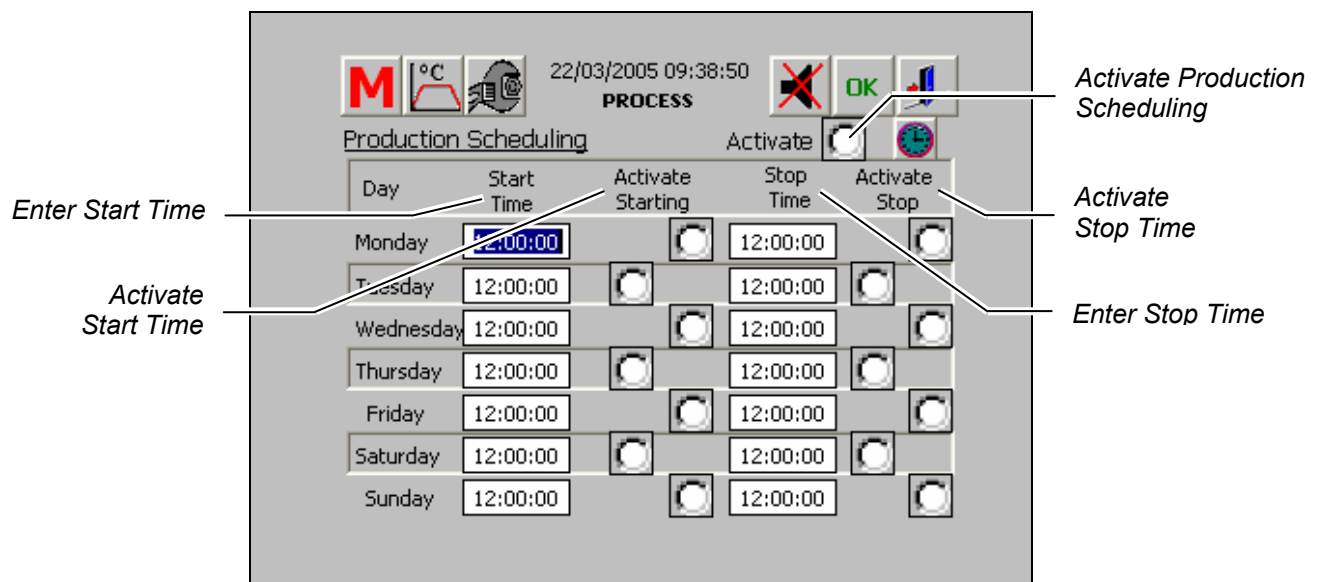

Figure 6-36 Production Scheduling – Enter Stop/Start Time
2. The Production Scheduling screen appears (Figure 6-36). Enter and activate the **Start Time** and **Stop Time**. Activate the Production Scheduling by clicking on the **Activate** button.